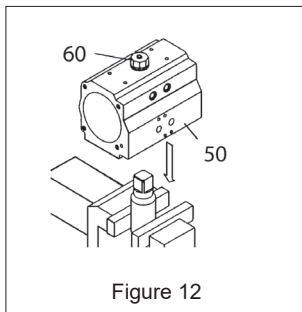

Figure 12
2. Piston (40) Assembly, (Figures 12 through 15):
- Install the piston o-ring seal (16) and the piston head (15) and piston back (5) bearings.
- Apply silicone grease to the internal bore of the body (50) using a recommended o-ring area grease listed in (Table 3). Apply grease to the piston (40) rack teeth using a recommended general-purpose grease listed in (Table 3).
- Hold the body (50) in a horizontal position by inserting the top of the shaft in a vice, or inserting the bottom of the shaft connection into a male drive fitted into a vice as shown by (Figure 12).